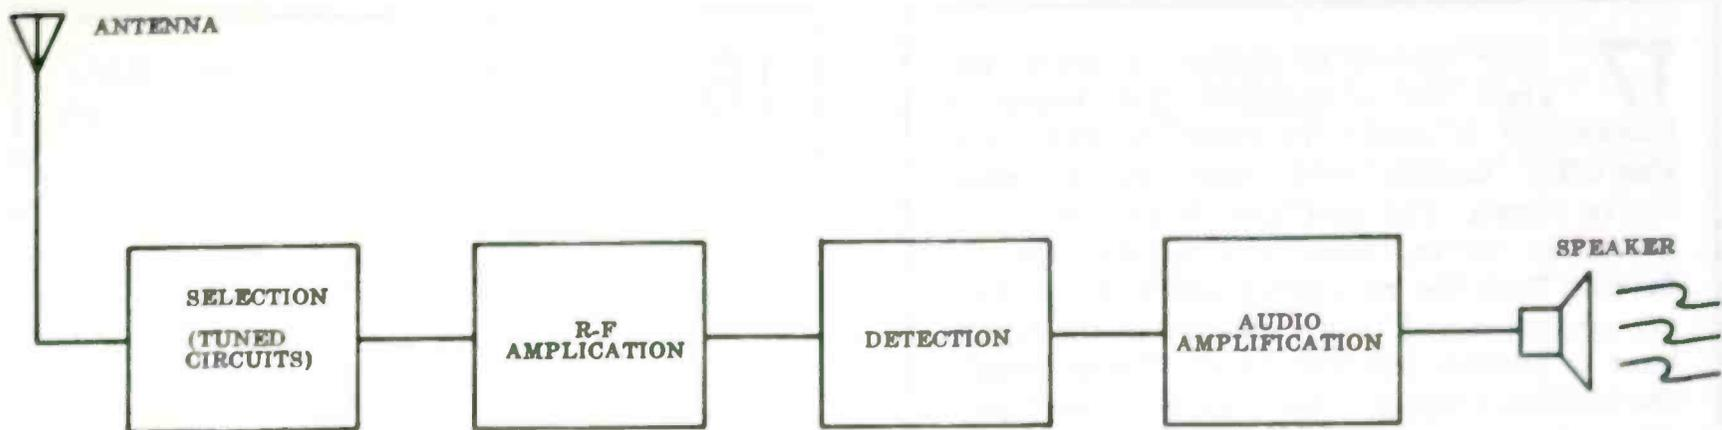

Figure 6
**8** Your answer is correct. Regardless of type of signal or modulation, modern radio receivers perform the functions illustrated in figure 6. First of all, the antenna intercepts the passing radio signals. Next, the